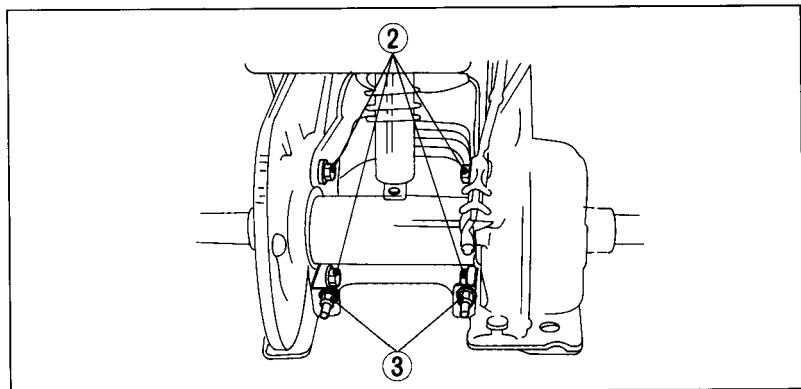

Fig. 4-14
Chain slack should be checked by measuring the amount of chain slack midway between the sprockets. The amount of slack should be 0.6–1.0 in (15–25 mm). To adjust slack, loosen the rear axle holder fixing bolts (2), (Fig. 4-14). Turn the adjusting nuts (3), (Fig. 4-14) to decrease or increase chain slack. Retighten the rear axle holder fixing bolts.